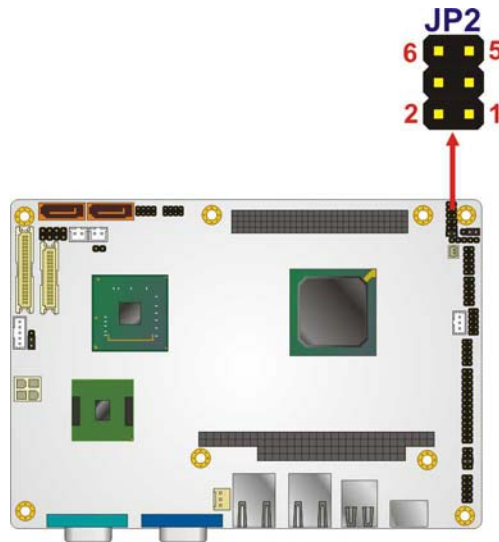

Figure 4-8:COM2 Function Select Jumper Location
- Jumper Location:** See **Figure 4-8**
The COM3 RS-422/485 mode select jumper location is shown in **Figure 4-8**.